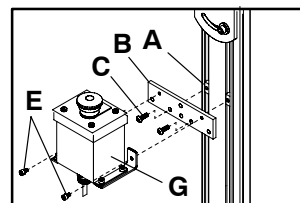

Figure 9
1. Insert two Single Drop-in T-bars (A of Figure 9) into Leg slot.
2. Attach mounting plate (B) to T-bars (A) with screws (C).
3. Attach Pushbutton Box assembly (G of Figure 9) to mounting plate (B) with screws (E).